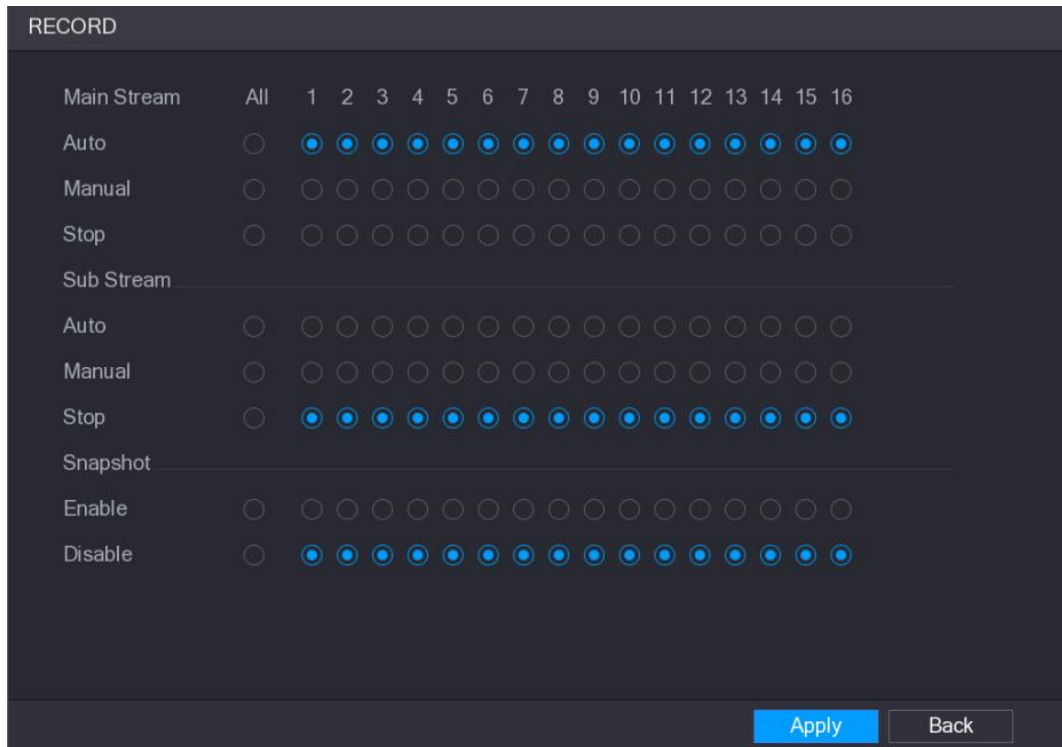

Figure 5-103
**Step 1** Right-click on the live view screen, the shortcut menu is displayed. On the shortcut menu, select **Manual > Record Control**. The **RECORD** interface is displayed, see Figure 5-103.